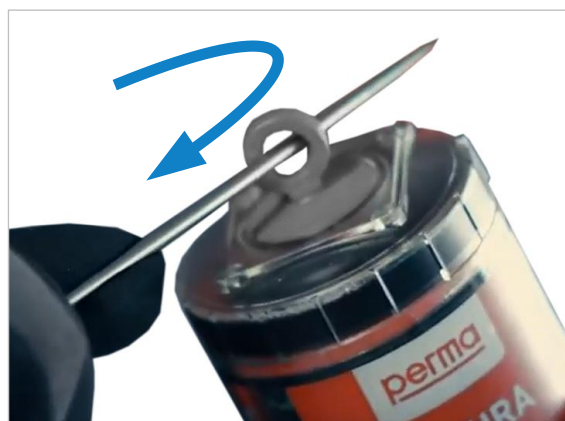

Figure 91: Activation with activation screw
- Open the front service door and unscrew the used lubricator (S) from the lubrication point.
- Remove the cap of the new cartridge. Release lubricant dispensing by screwing in the activating screw with a suitable tool, until the O-ring breaks off (see ⇒ Figure 91 on the right).